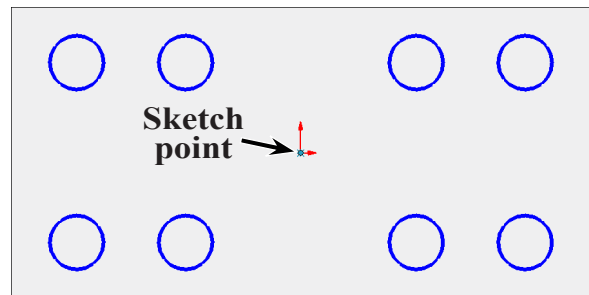
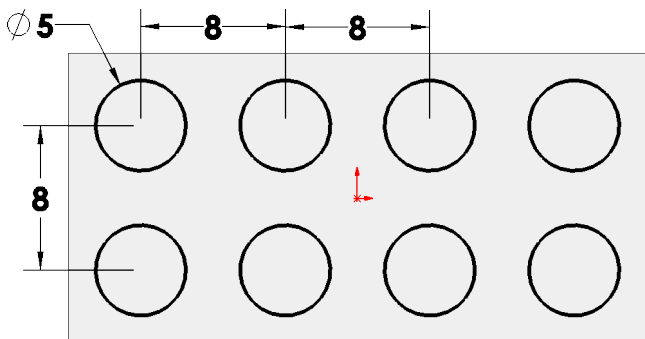

Fig. 31
Fig. 32
Step 13. Click **Mirror Entities**  on the Sketch toolbar, **Fig. 31**.
Step 15. Sketch point at Origin , **Fig. 31**. Be care not to add any extra points.
Step 16. Click **Smart Dimension**  (S) on the Sketch toolbar.
Step 17. Add dimensions, **Fig. 32**.